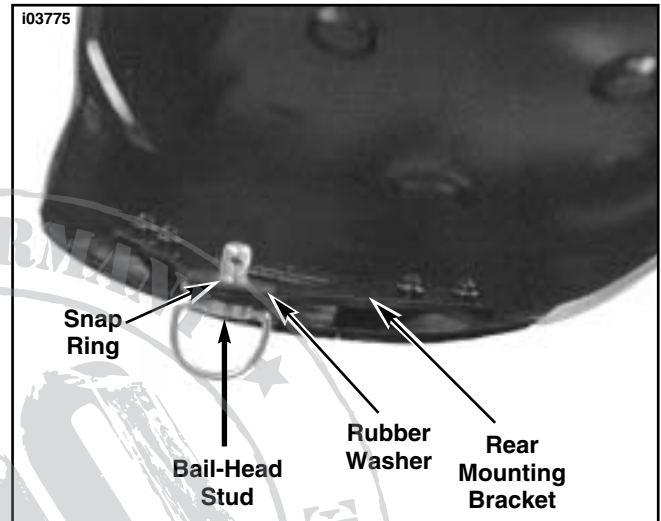

Figure 2. Remove Airbox Mounting Hardware
4. See Figure 2. Remove Snap Ring, Rubber Washer, and Bail-Head Stud from rear mounting bracket on airbox cover. Save items for re-assembly.